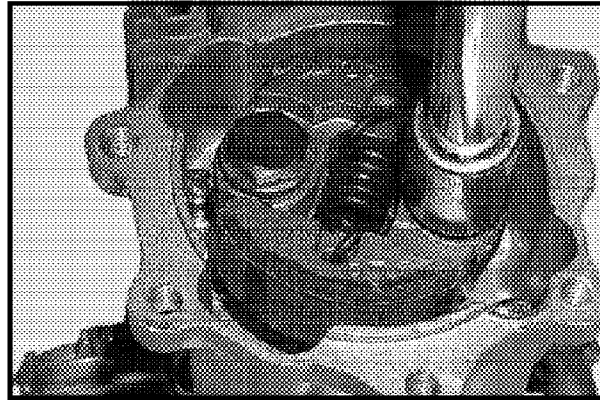

FIGURE 30
**Service note:** Make sure the LO is facing out when you re-assemble the clutch to the clutch holder (See page 20, FIGURE 30).